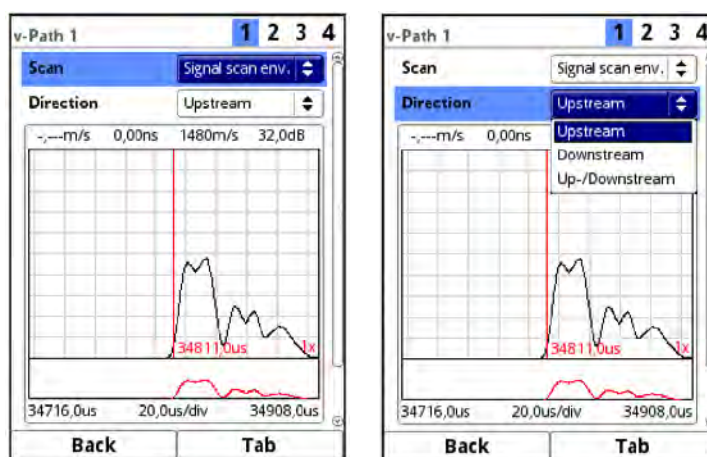

Fig. 45-3 Signal scan envelope
- **>Signal Scan Envelope<** (Fig. 45-3)